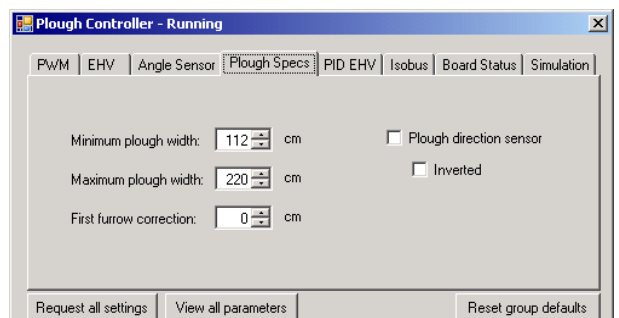

Figure 19 CAN-Tool tab page Plough Specs
1. Set up the plough in its **most contracted position** and record the sensor voltage by pressing on **Get** on the tab page Angle Sensor (20).
3. Measure the ploughing width in the **broadest position** across one or a multiple number of shares. To do this, it is handy to attach a steel tube with glue clamps to the mouldboard of the plough (Figure 18). Convert the measured width to the width across the entire number of shares. Enter the full plough width on the tab page Plough Specs under Maximum Plough Width (Figure 19).